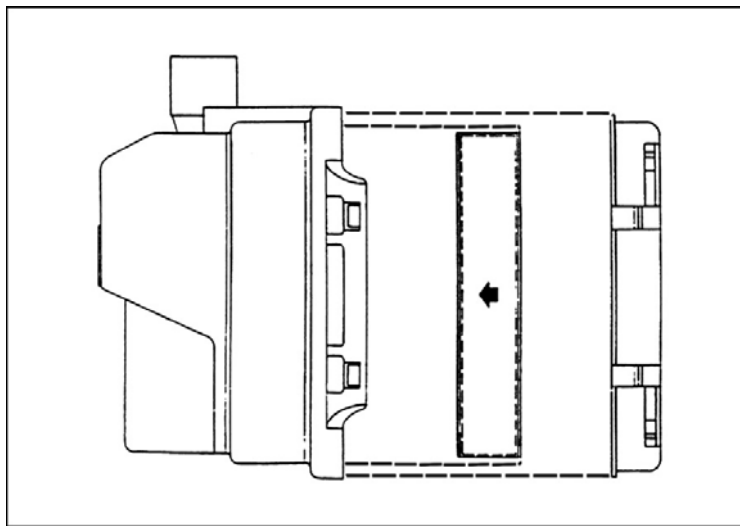

Fig. 2
5. Replace the filter with arrows pointing in towards the battery pack. (Fig.2)
3. Fit the replacement filter into the PAPR unit with the arrows pointing into the PAPR unit. (Fig. 2)